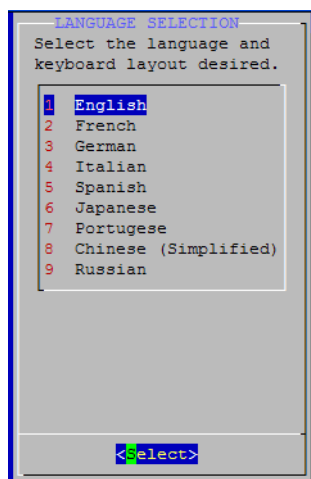

Figure 3-55 Language Selection Screen
9. If you want to use the semiautomatic (auto) network settings, press <Enter> to select **No** and display the **Language Selection** screen (as shown in Figure 3-55), and proceed to step 15.
The **Language Selection** screen appears, as shown in Figure 3-55. For Italian, Chinese (Simplified), and Russian, this setting also specifies the respective Show Manager UI translation. (All other language selections display an English UI.) Chinese and Russian selections support an English keyboard with a localized UI.